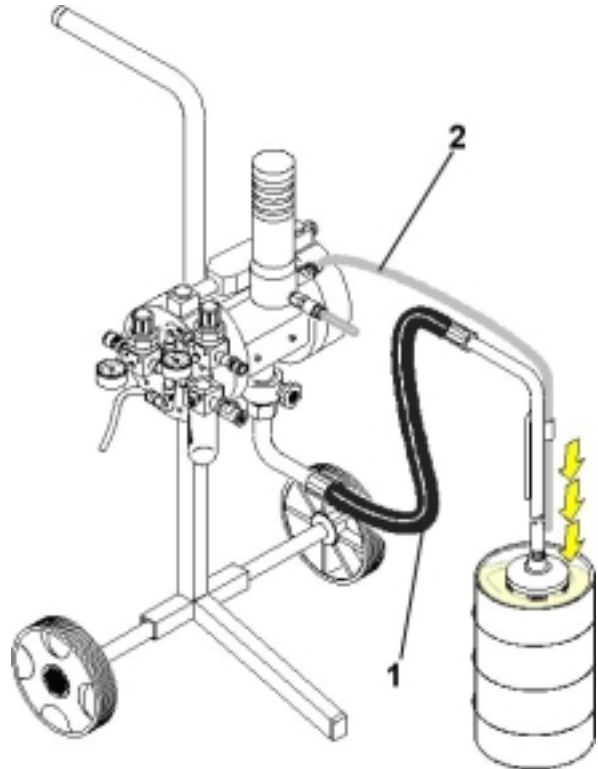

Fig.28
- 5) Insert the suction pipe ❶ (fig. 28) and the recycle pipe ❷ into the container of the product to be delivered. The recycle pipe must be placed in the relative support located in the end part of the suction pipe.